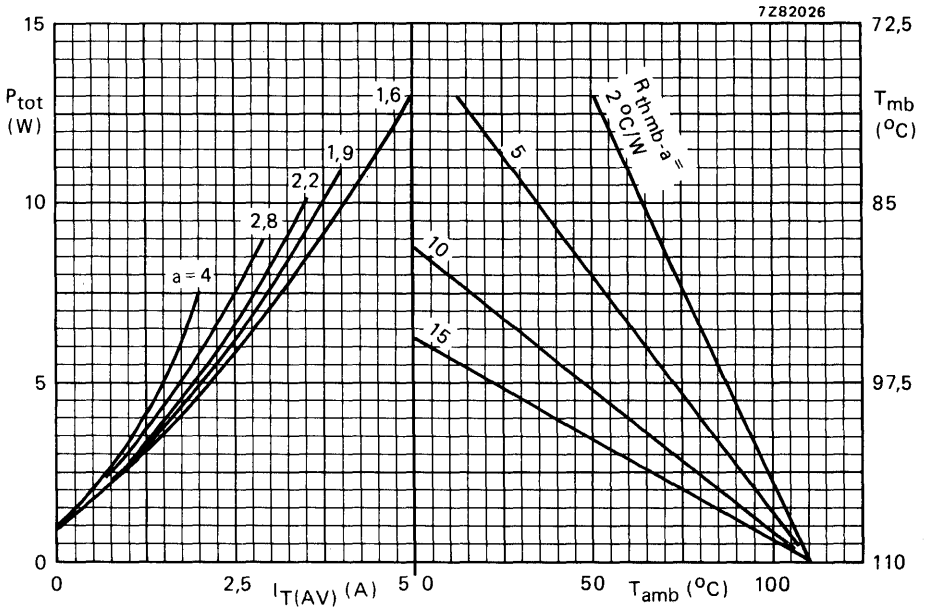

Fig. 5 The right-hand part shows the interrelationship between the power (derived from the left-hand part) and the maximum permissible temperatures.
- The method of using Fig. 5 is as follows: